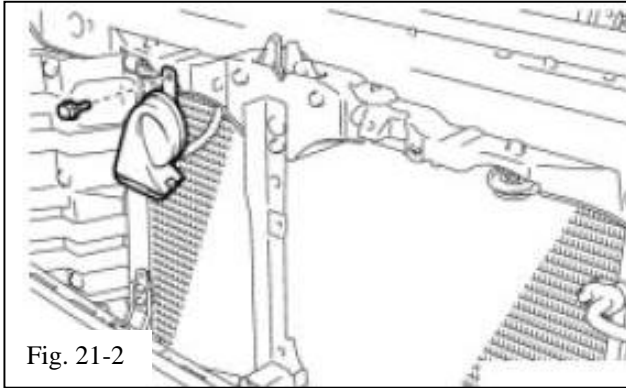

Fig. 21-2
- (1) Disconnect the high pitch horn connector.
- (2) Unbolt and remove the high pitch horn (Fig. 21-2).